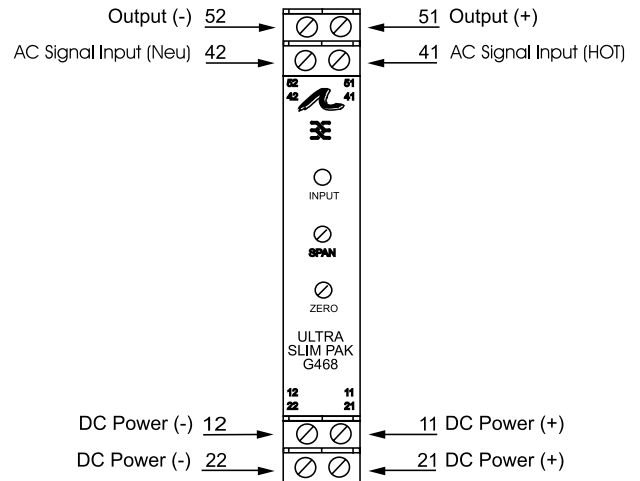

Figure 2: Wiring Diagram for G468
1. After configuring the DIP switches, connect the input to a calibrated AC source. Connect the output to the device (or a load approximately equivalent to the device) and apply power. Refer to the Terminal Wiring Diagram (Figure 2).